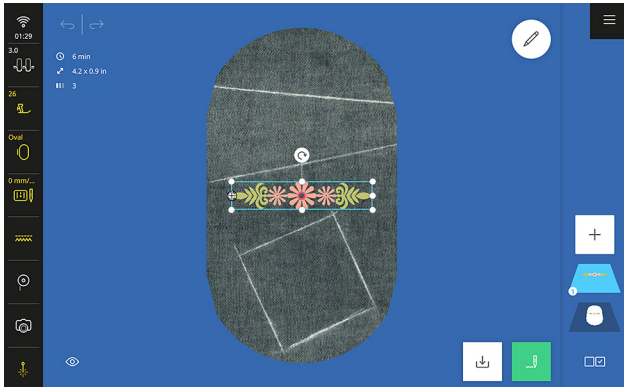

Fig. 43
7. Select design #FB038 (Fig. 43).